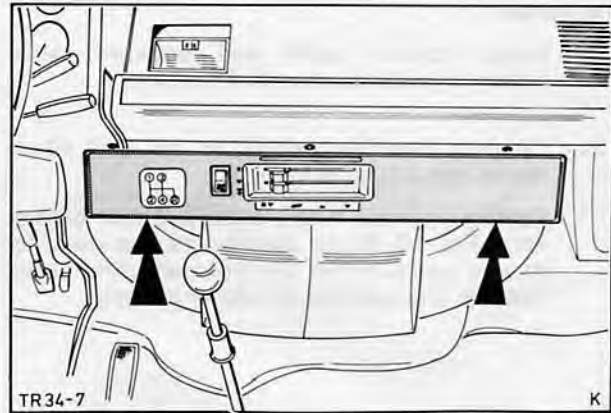

Fig. 7. Remove bezel from instrument panel
1. Remove heater control panel bezel from beneath instrument panel (2 screws), Fig. 7.